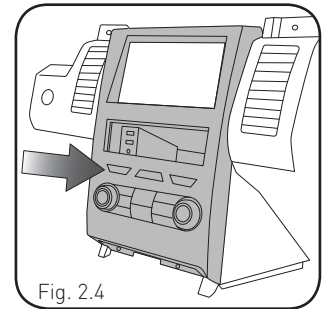

Fig. 2.4
4. Place the FLX1 dash bezel into factory dash trim and secure with nine (9) T25 Torx screws removed earlier. (Fig. 2.4, 2.5)